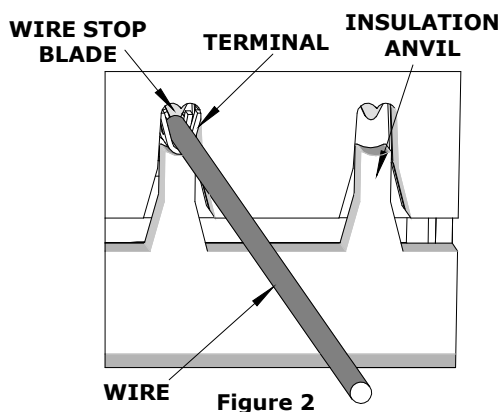

Figure 2
5. Slide the pre-stripped wire into the terminal. Make sure to aim the wire brush toward the tip point on the wire stop blade. See Figure 2. Align the wire so that it is parallel and sitting into the terminal.